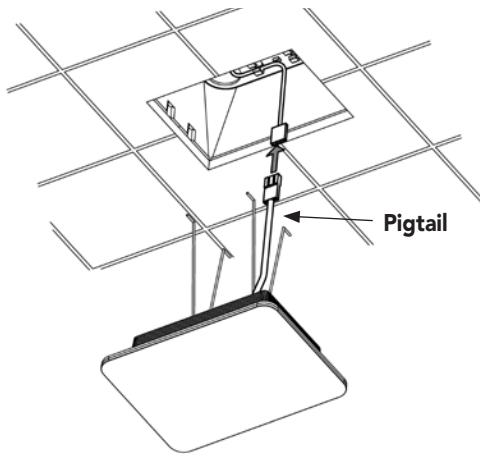

Figure 11
1. Connect the ChromaSteamX fixture's pigtail to the 30-foot LED power cable in the junction box (**Figure 11**).